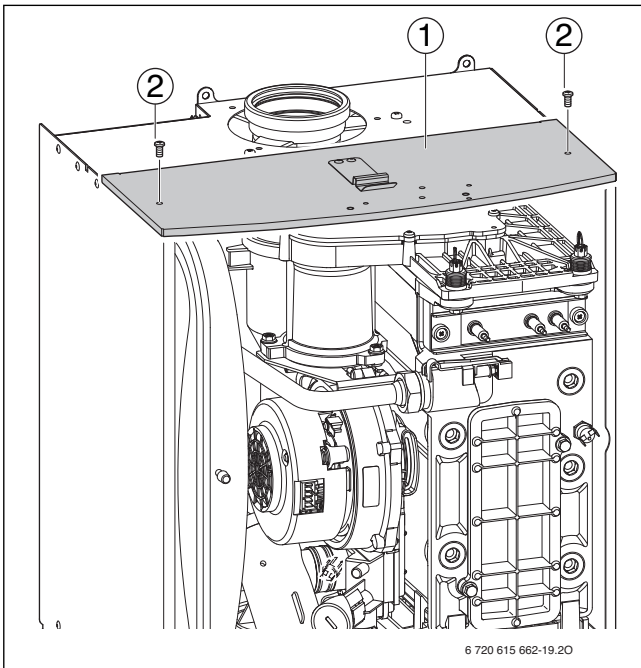

Fig. 68
- ▶ Remove two screws [2] from top cover [1] and lift off cover (→ Fig. 68).
- ▶ Remove clips [3], nuts [4] and [5] and two screws [7] (→ Fig. 68).